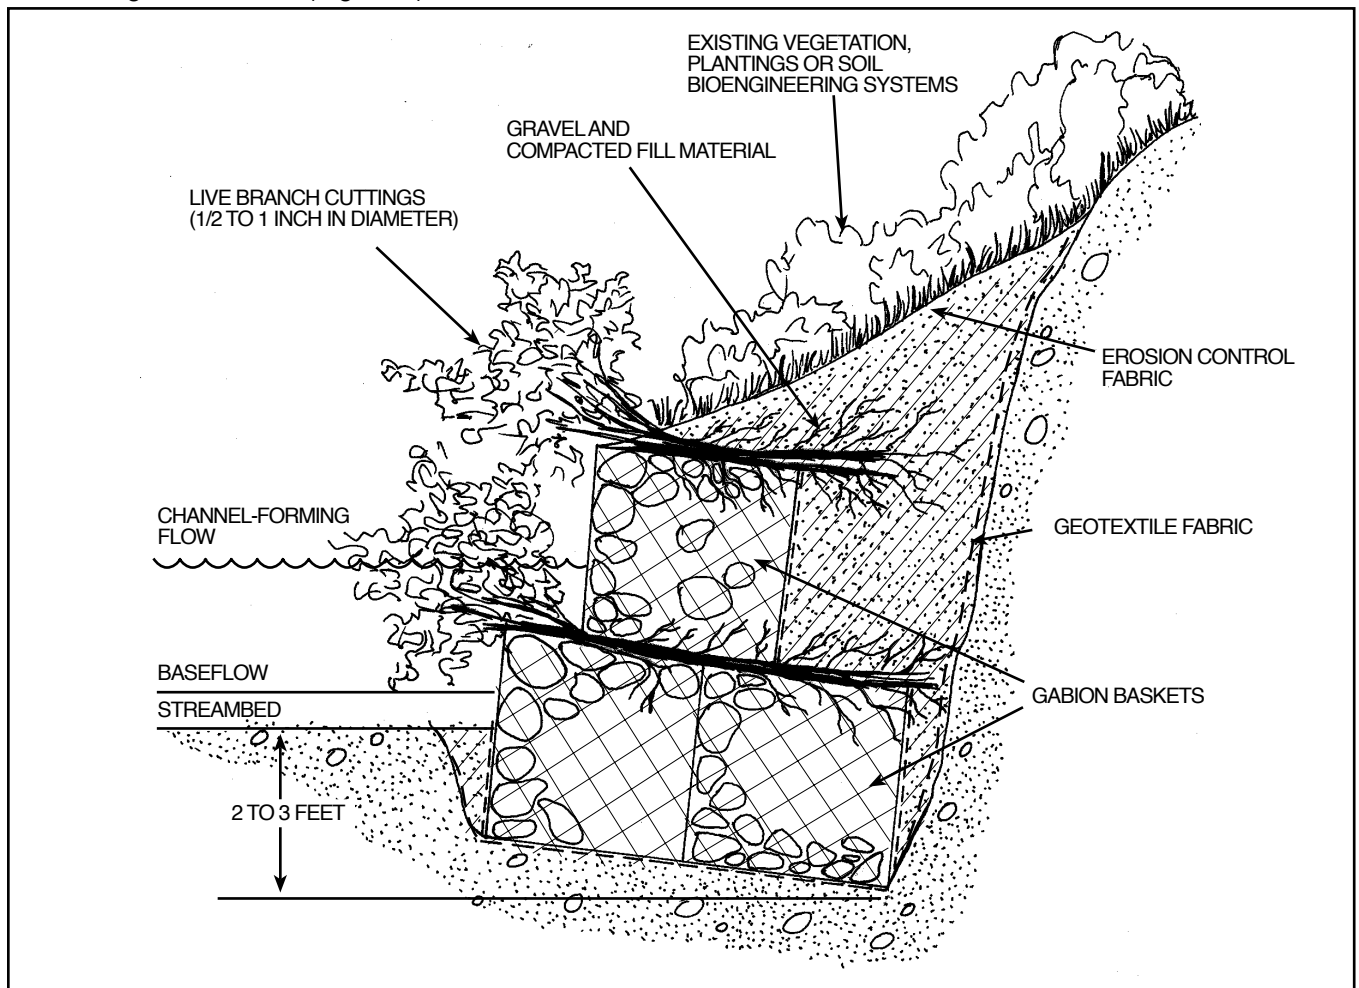

Figure 5. Cross section of vegetated gabion revetment
8. Where sunlight is available, dormant cuttings of willow or other rapidly-rooting species may be placed between the layers of baskets during construction (Figure 5).